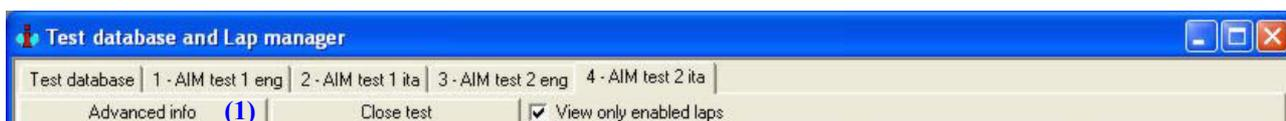

Fig. 3.9– *Test database and Lap manager* window: layers and buttons.
If you wish to have more information about a test, please select the desired test among the loaded ones and click the “Advanced info” (1) button, as shown in Figure 3.9.